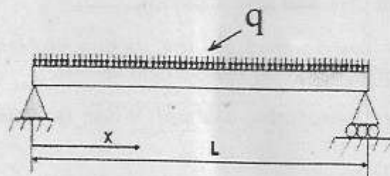

Fig. 12 (a)
- (i) How will you mathematically model this problem? (2)
- (ii) What is the difference between the use of weighted residual technique, Ritz technique and the finite element technique for solving the above problem? (2)
- (iii) Take at least 2 elements of equal length and solve for the displacement. What is the displacement at the tip of the bar? (9)
12. (a) Determine the maximum deflection and slope for the simply supported beam subjected to uniformly supported load 'q' as shown in Fig. 12 (a).